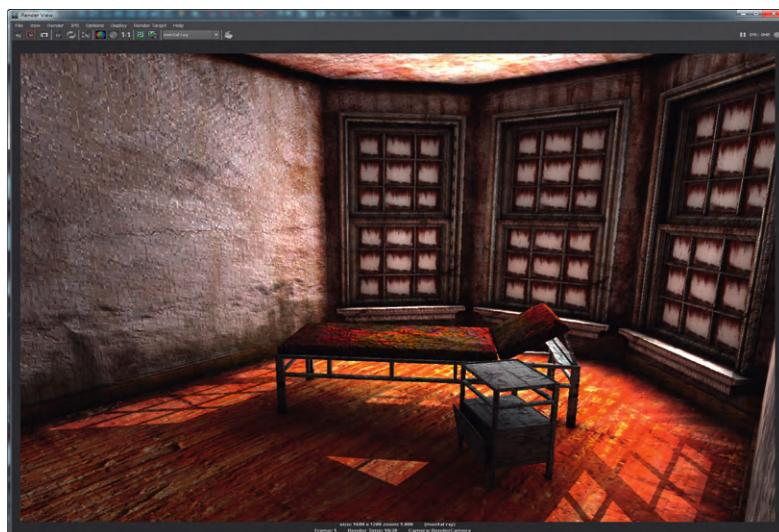

FIG 7.28 Initial render with Mental Ray.
Step 9: Turn on Mental Ray and Final Gather. Do this by choosing Render Settings (Window > Rendering Editors > Render Settings). Change Render Using: Mental Ray. Then, click on the Features tab, and in the Secondary Effects area, tick on the Final Gather option. Click the Close button. Render (**Fig. 7.28**).